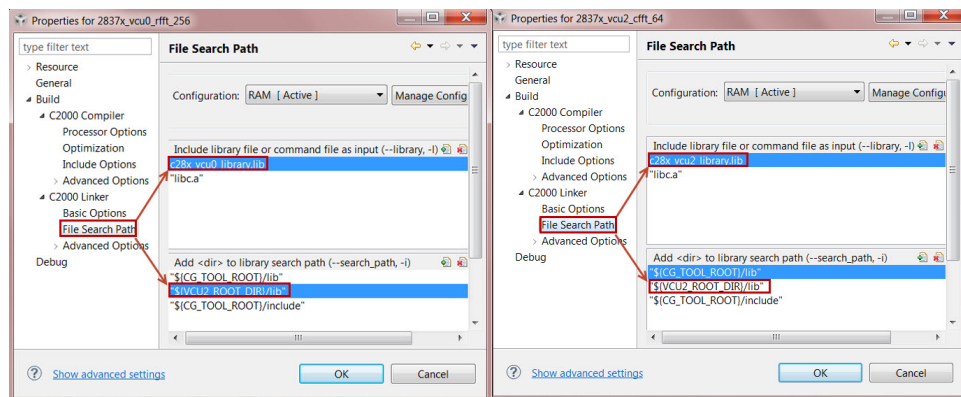

Figure 4.6: Adding the library and location to the file search path
3. Add the name of the library and its location to the **File Search Path** as shown in Fig. 4.6. The figure shows build properties for two projects, each using a different vcu library.